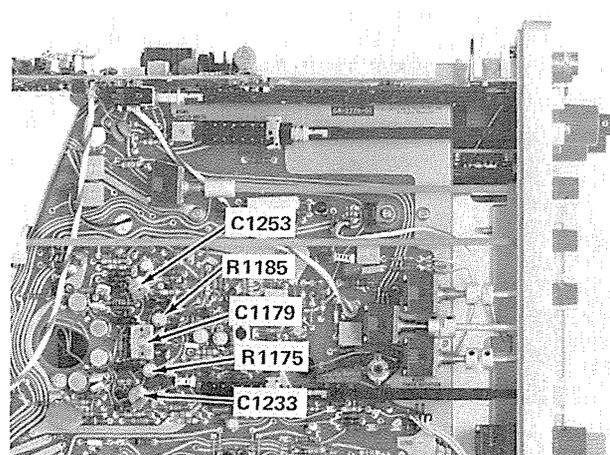
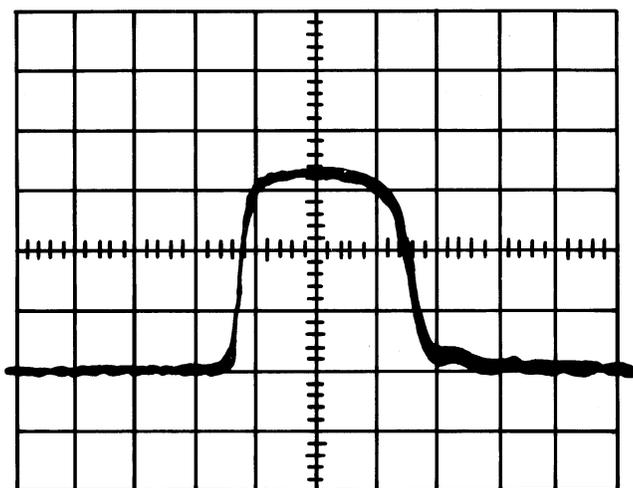

Fig. 5-27. Location of high-speed timing adjustments (except R1075).
Fig. 5-30. Typical CRT display with high-speed timing adjustments preset.
f. ADJUST—C1233 and C1253 (see Fig. 5-27), with a low-capacitance screwdriver, in approximately equal amounts to achieve 1 cycle/division.
j. ADJUST—C1179 (see Fig. 5-27) with a low-capacitance screwdriver, for 1 cycle/division.
h. ADJUST—(See Fig. 5-27), R1175 to midrange, R1185 to midrange, C1233 and C1253 half-closed, and C1179 one turn from fully clockwise.
i. ADJUST—R1175 and R1185 (see Fig. 5-27) for a symmetrical waveform similar to that in Fig. 5-30.
k. ADJUST—C1233 and C1253 (see Fig. 5-27) equally for 1 time marker/division.
n. ADJUST—C1179 (see Fig. 5-27) for 1 time marker/division.